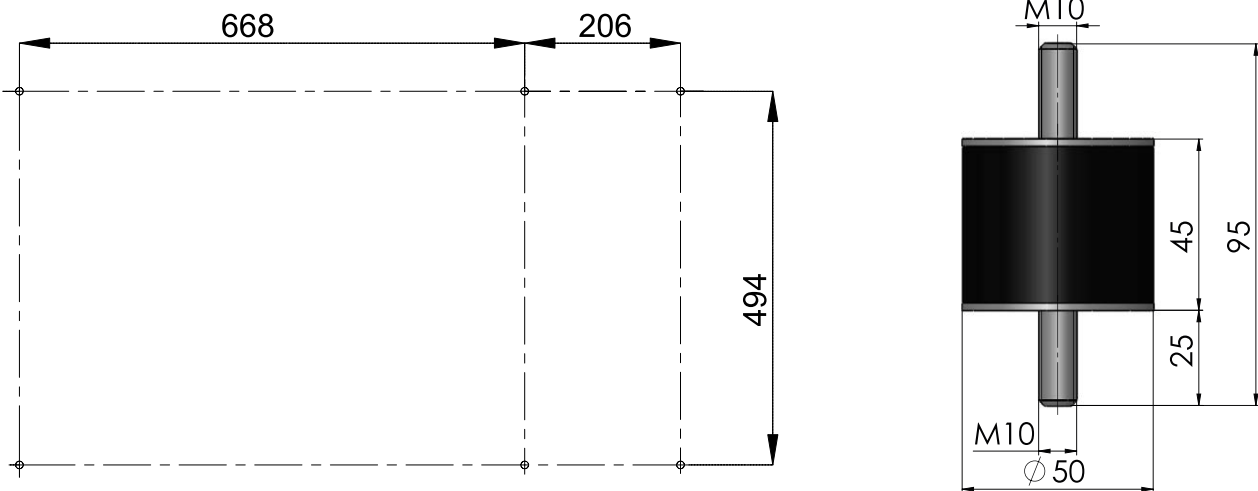

Fig. 13: Anchor points for the outdoor unit and vibration damper dimensions
If the base of the outdoor unit is not used, it is possible to place the outdoor unit, for example, on a concrete block with a min. dimensions 1200×830 mm and min. 200 mm high for access during installation and piping. The outdoor unit is fixed to the concrete block with M10 anchors via rubber pads designed to absorb vibration. The anchor points are depicted in Fig. 13.
When placing the outdoor unit on the roof, it is necessary to prepare a structure that will be used to fix the outdoor unit. The bearing capacity of the structure must take into account the weight of the outdoor unit and the effect of wind. The height of the structure is at least 200 mm above the roof surface, the upper surface with the anchor points is horizontal. The location of the anchor points for attaching the outdoor unit is shown in Figure 13, vibration dampers can be ordered as accessories for the outdoor unit.
- If the outdoor unit is more than 20 m higher than the indoor unit, it is recommended to include a bend in the refrigerant gas branch as shown in *Fig. 13* to improve oil flow to the compressor.